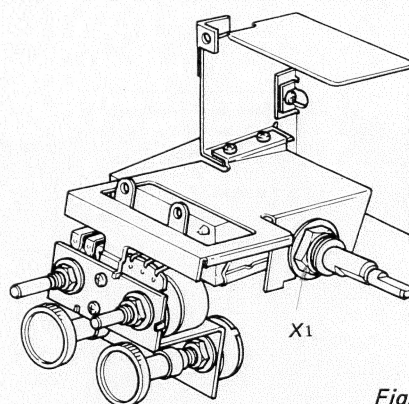

Fig. 2-28
4. Loosen a nut labeled X1 in Fig. 2-28.